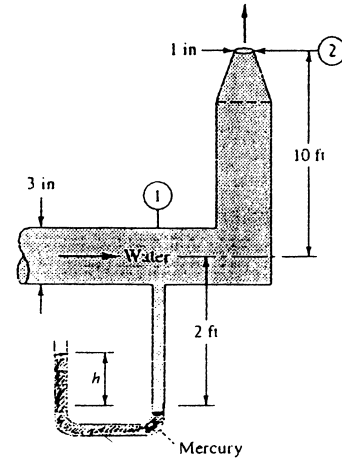

Fig. P3.168
3.168 In Fig. P3.168 both fluids are at 20°C. If $V_1 = 1.7$ ft/s and losses are neglected, what should the manometer reading h ft be?